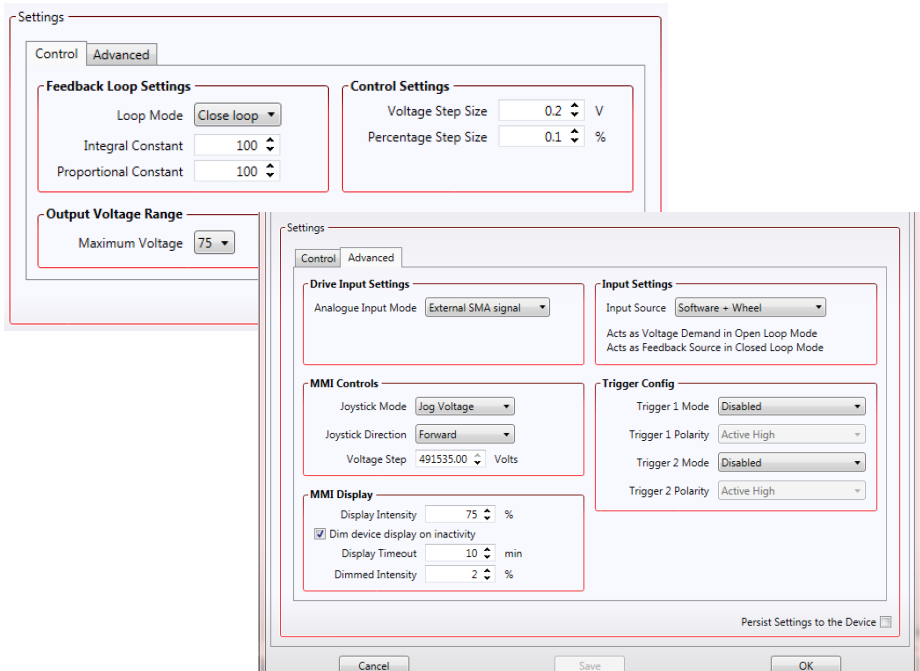

Fig. 4.7 Piezo Driver Settings
- 11) Make the following parameter settings, as shown in Fig. 4.7